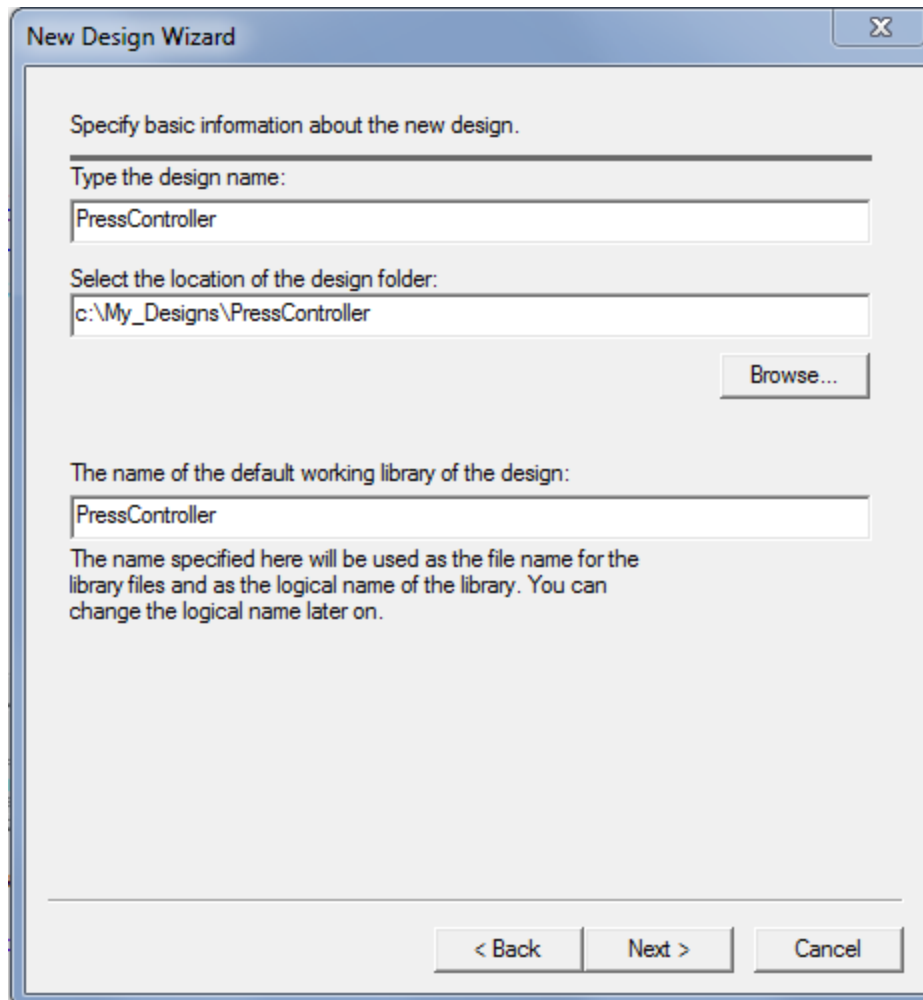

Figure 3 New Design Wizard
- Specify the design name and select the location of design folder (exactly the same as the workspace). The name of the default working library of the design is same as the design name. (Refer to figure 3)